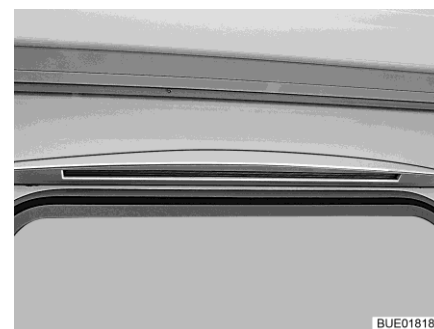

Fig. 72 Awning tent light (not when equipped with awning)
- Awning tent lighting (Fig. 72) (not when equipped with awning)